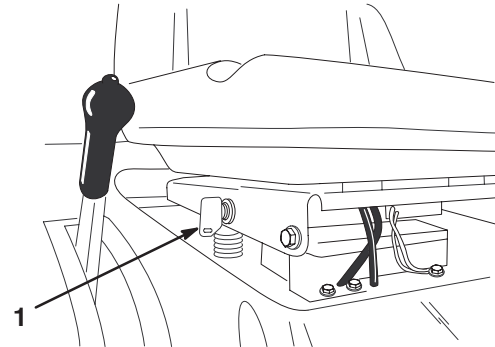

Figure 12
If you need to use the blades (PTO) while backing up, turn off the interlock feature using the KeyChoice switch located near the seat bracket (Fig. 12).
2. Insert the KeyChoice key into the switch (Fig. 12).